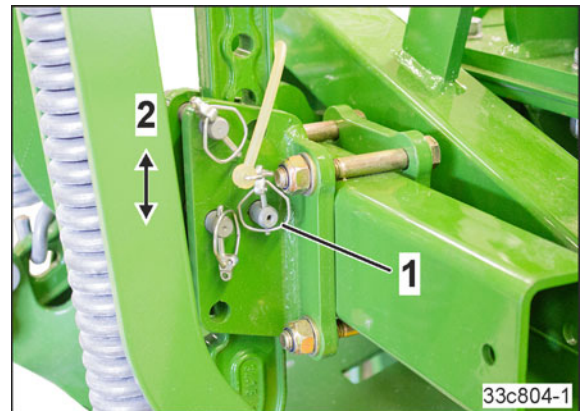

Fig. 116
1. Remove the linch pin (Fig. 116/1)
5. Secure the locking pin with a linch pin (Fig. 116/1)
4. Holding it by the recessed grip, remove the wheel mark eradicator from the wheel mark eradicator bracket (Fig. 116/3)
- Using the recessed grip, put the wheel mark eradicator into the desired position (Fig. 116/3)